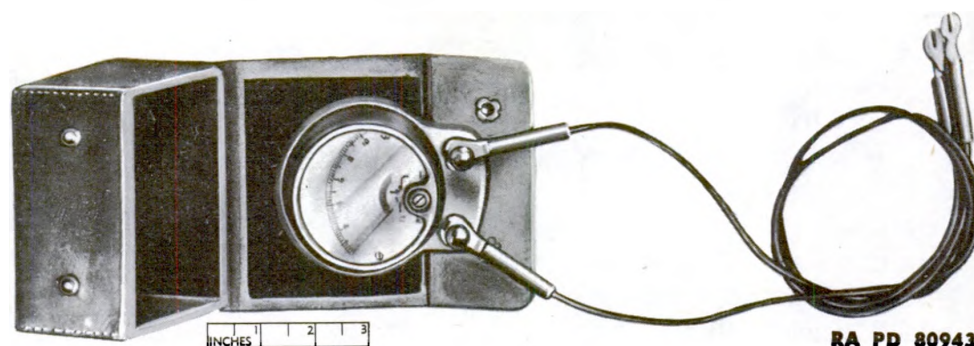

Figure 209 -- Ammeter (for Electric Brakes) A162447
a. **Ammeter (for Electric Brakes).** This ammeter (fig. 209) is used for measuring the current taken by the electric brakes of the carriage. It is used by connecting one terminal of the meter to one wire, and the other terminal of the meter to the point to which the wire is normally attached. When the current is supplied to the brakes, this meter registers the current flowing through the brakes.